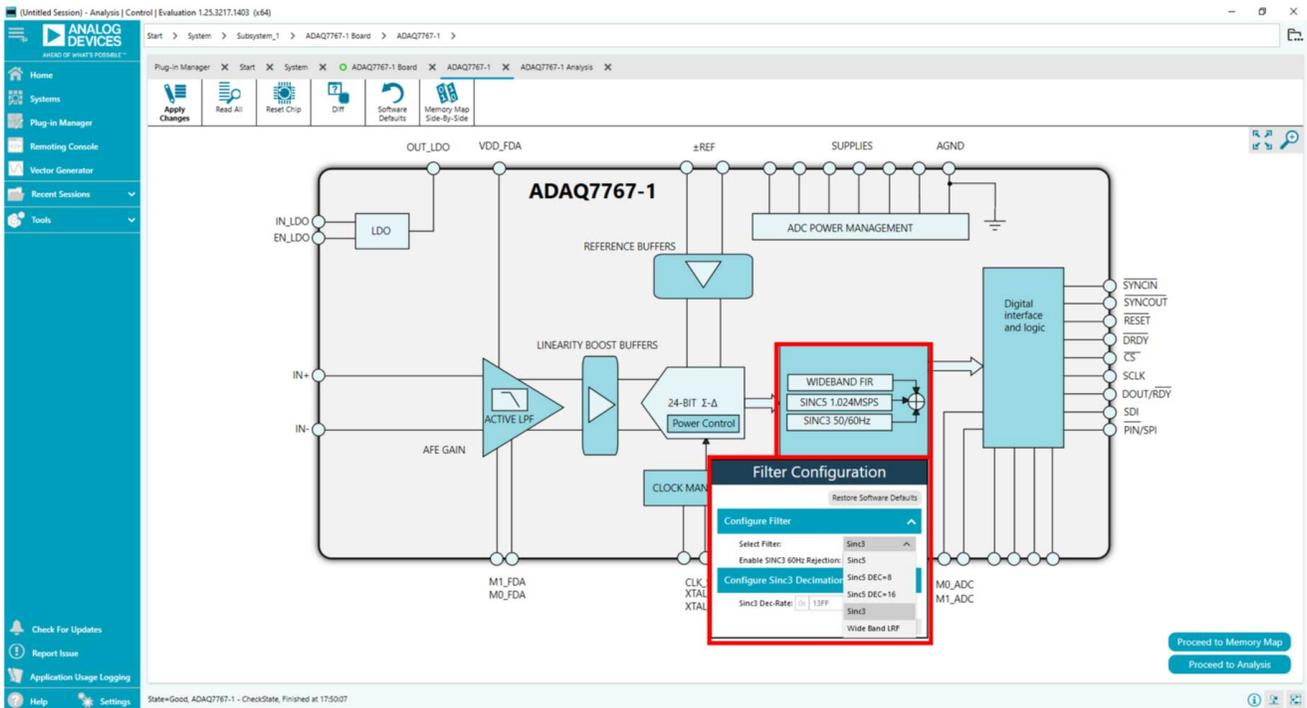

Figure 4. Set the Digital Filter Type
3. Use the drop-down menu to select Sinc3 (programmable decimation rate) option as shown in Figure 4.